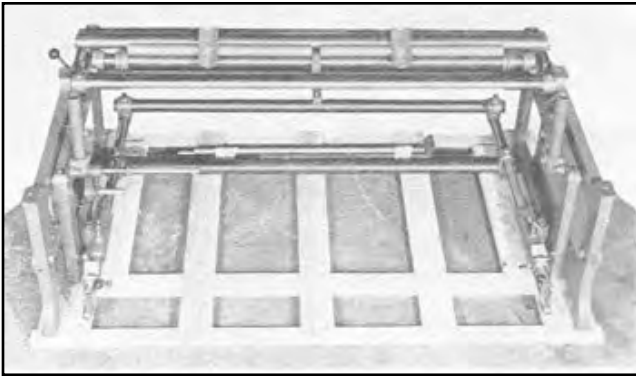

Fig.1
1. The Model 900 is shipped complete in one crate and it can be set up for operation in a few minutes. Figure 1 shows the Model 900 on its shipping base with the crate removed and the two cartons set aside. Remove all wires and tape used to secure the parts in shipment. Unfasten the side frames from the shipping base and place the upper structure on the floor.